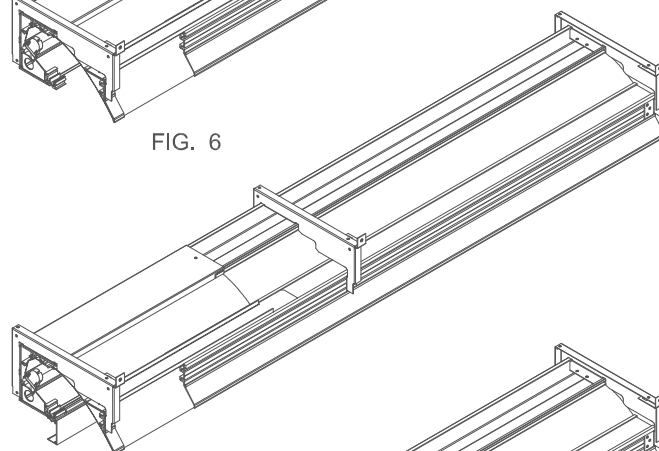

FIG. 7
11. RE-INSTALL CEILING TRIM AND SECURE WITH SET SCREWS. SEE FIG. 7